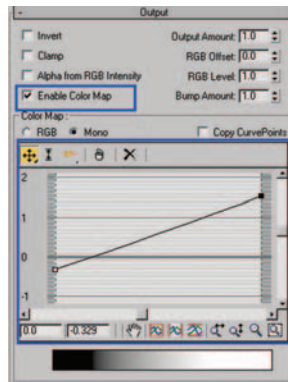

Figure 11.55 Enable Color Map checkbox and the Color Map window.
19. In the Material Editor, go to the Output rollout and check the Enable Color Map checkbox. The Color Map window becomes active. Figure 11.55 shows the Enable Color Map checkbox and the Color Map window.